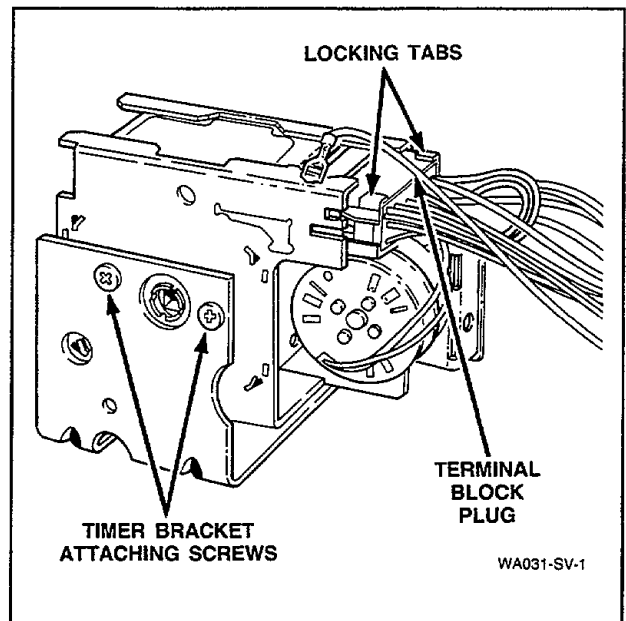

Figure 8
- Disengage wire harness terminal block plug from the timer by pressing in on the movable locking tabs (located on each side of terminal block plug), *Figure 8*. Then pull the terminal block plug away from the timer.
- Remove two screws holding timer to bracket, *Figure 8*.